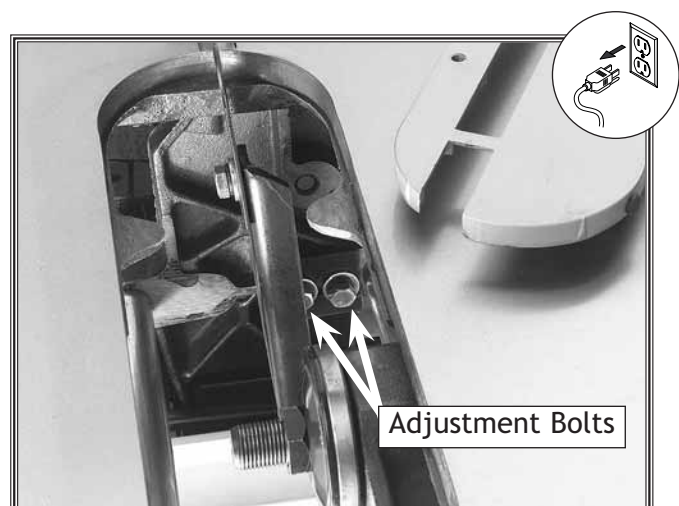

Figure 49. Splitter attachment locations.
3. Adjust the setscrews shown in **Figure 49** to adjust the angle of the fence. Note— *The left setscrew will move the fence left and the right setscrew will move the fence right.*
3. To align the splitter to the blade, loosen the two adjustment bolts and the two internal adjustment bolts on the bracket that holds the front of the splitter shown in **Figure 49**.